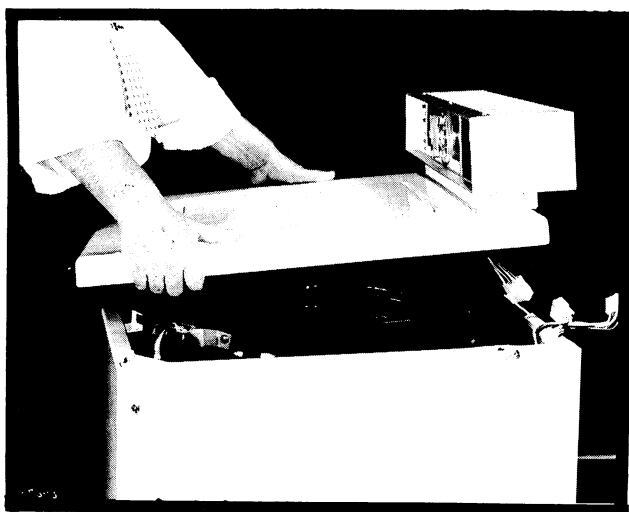

Figure 8 A
- e. Remove top panel. See *Figure 8 A*